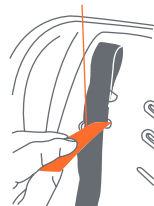

Fig. 30-1
6. Using the included Belt Threading Tool, insert the Harness Straps through the Slots selected in step 2 above, in the seat pad and the seat shell, respectively. (Fig. 30-1)